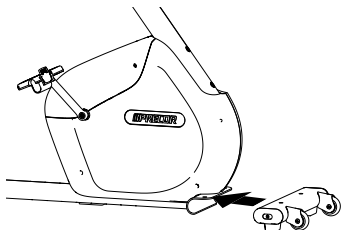

Figure 3
- Place the front stabilizer underneath the bracket at the front of the bike (Figure 3).